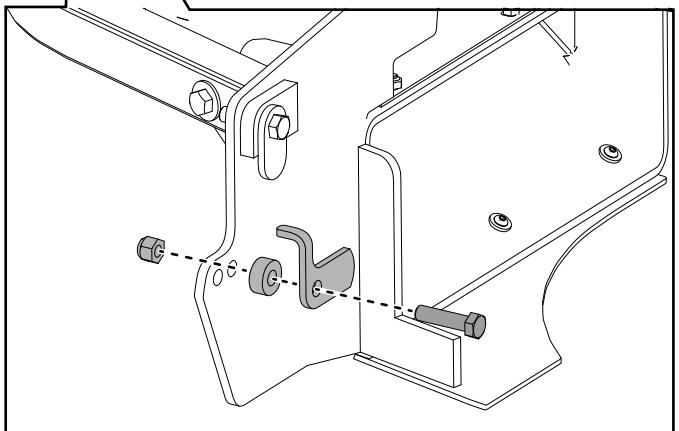
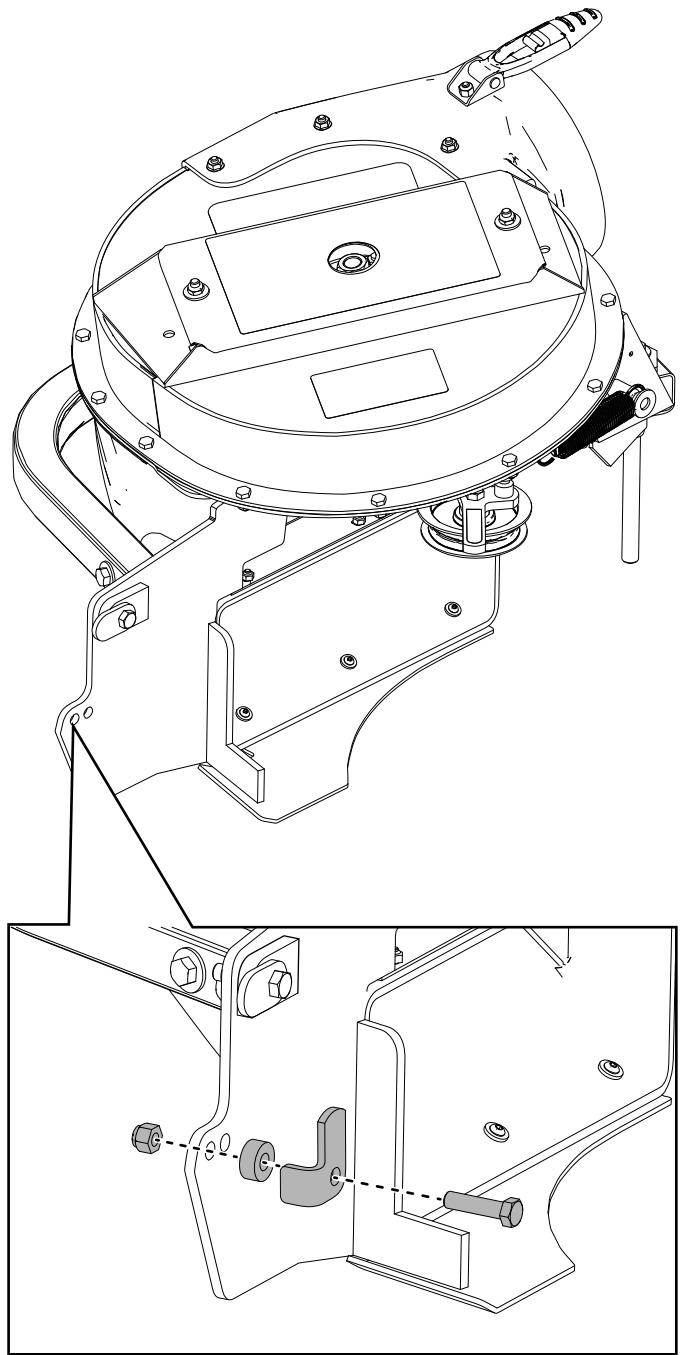

Figure 33
Figure 34
3. Secure the latch to the blower assembly using the hex-head bolt (3/8 x 1-1/2 inches), spacer, and locknut (3/8 inch) as shown in Figure 33 and Figure 34.